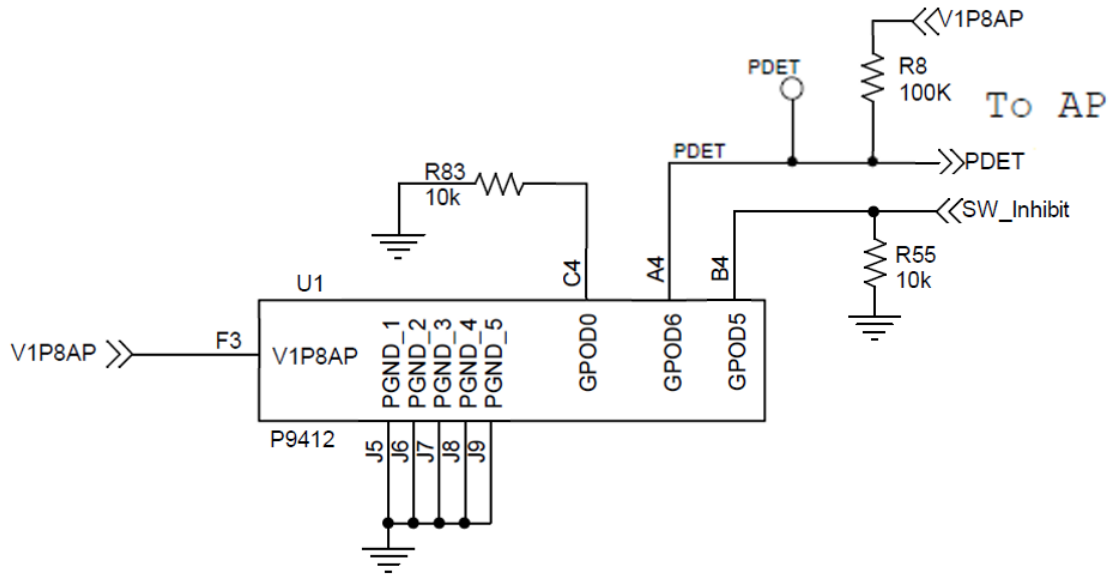

Figure 3. Waveform of PDET (OD6) Output Indicating Rx Removal and Placement with SW_Inhibited.
- Figure 3. Waveform of PDET (OD6) Output Indicating Rx Removal and Placement with SW_Inhibited.5